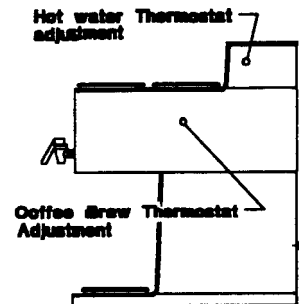

Figure 1
7. Press "Brew" Switch. Repeat a second time, allowing two (2) minutes between cycles. Water will begin to flow through brew funnel into Decanter during second cycle.
14. The Thermostats are calibrated at $198^{\circ} - 202^{\circ}\text{F}$. The thermostat adjustments are located on the side of the unit. (See figure 1) To adjust, first remove snap-in plug, then turn shaft clockwise to increase temperature, or counter-clockwise to decrease temperature.